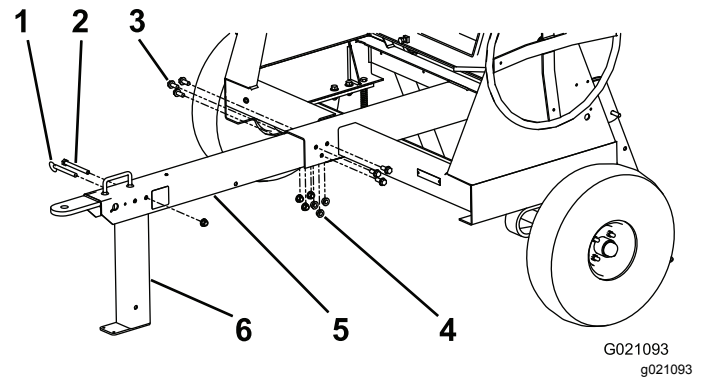

Figure 7
4. Install the tongue into the opening at the front of the machine and secure it with 6 nuts and short bolts torqued to 102 N·m (75 ft-lb); refer to Figure 7.
5. Align the top rear hole in the front stabilizer leg to the hole past the handle in the front of the tongue (Figure 7).
6. Install the long bolt through the holes and secure it with a nut torqued to 102 N·m (75 ft-lb); refer to Figure 7.
7. Insert the clevis pin to lock the front stabilizer leg in position (Figure 7).